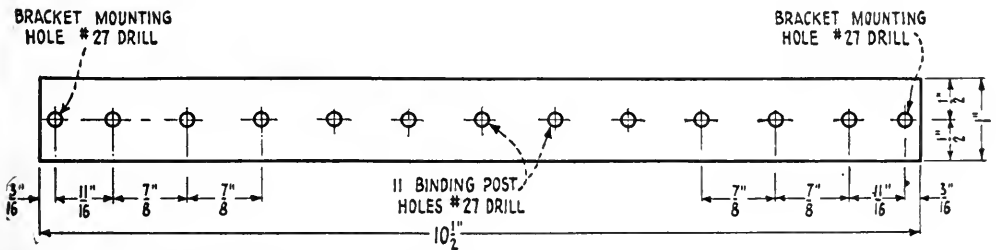

FIG. 21. THE BAKELITE BINDING POST LAYOUT
**I**N ARRANGING the units on the panel the layouts in Figs. 21-A and B will be found very helpful. Then, too, it is good practise to wire as much of the panel as possible before the sub-panel is attached. If this plan is followed the balance of the wiring will be brought to